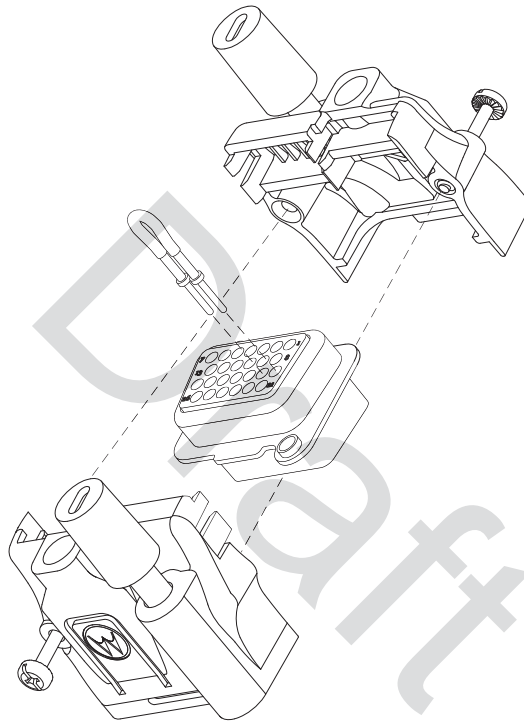

Figure 4-9. Exploded View of Accessory Connector Assembly (HLN6863_)
1. Place the plug in one cover. Be sure that the flange of the plug is in the slot of the cover. See Figure 4-9.